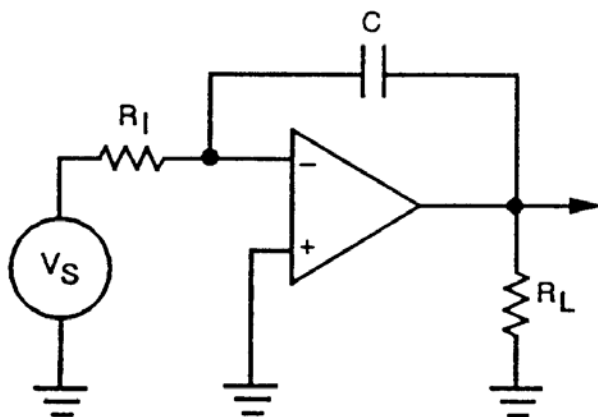

Figure Q-40. Differentiator
h. The differentiator performs much like the integrator. It too uses feed-forward. But after viewing it in Figure Q-40, you will note differences.